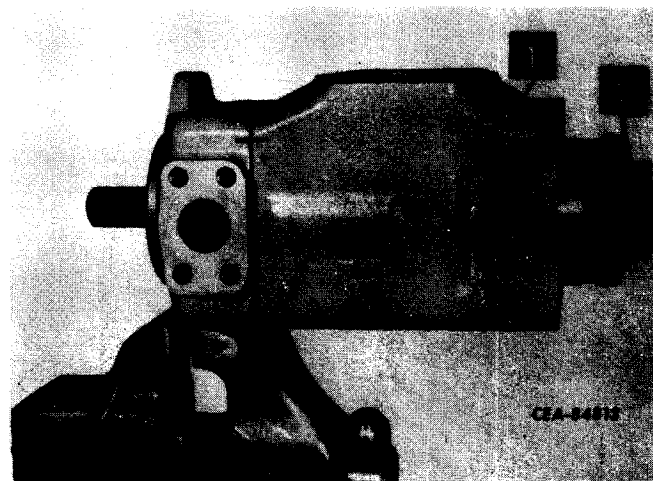
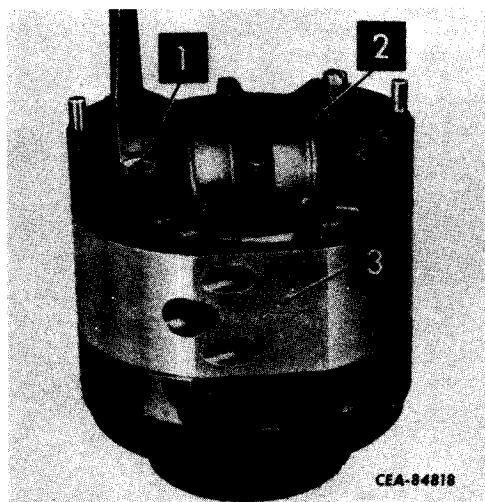

Figure 11-6
Figure 11-11
Before removing cartridge from housing note direction of rotation and GPM rating (Fig. 11-11). It is essential that cartridge be reassembled correctly. Remove cartridge (2) from inlet housing (1, Fig. 11-6).
Remove screws (1, Fig. 11-11) from cartridge assembly (2). Note capacity and direction of rotation stamped on ring of cartridge assembly (3).